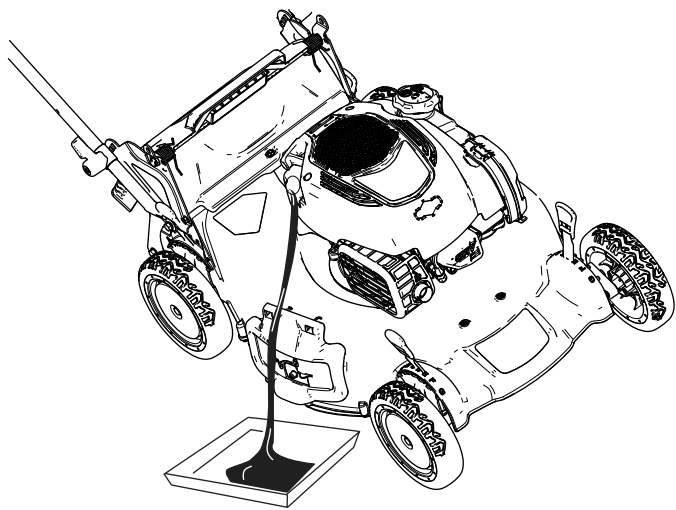

Figure 40
- 4. Tip the machine onto its side (so that the air filter is up) to drain the used oil from the oil-fill tube (Figure 40).